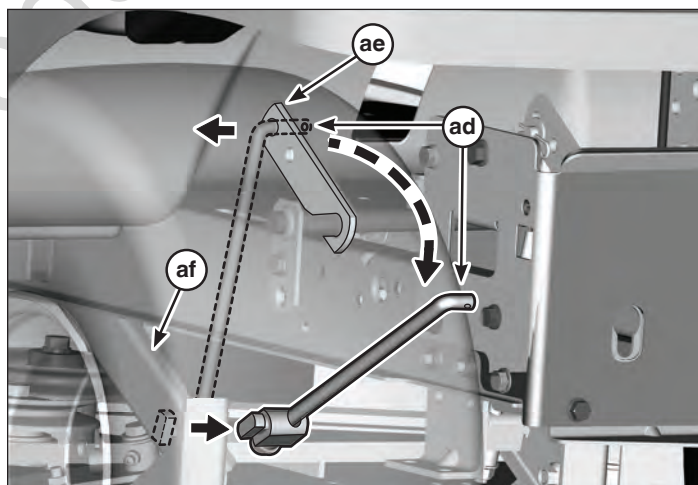

Figure 26
- Pull out lift rod (ad, Figure 26) from lift arm (ae) and rotate to remove from lift bar (af).